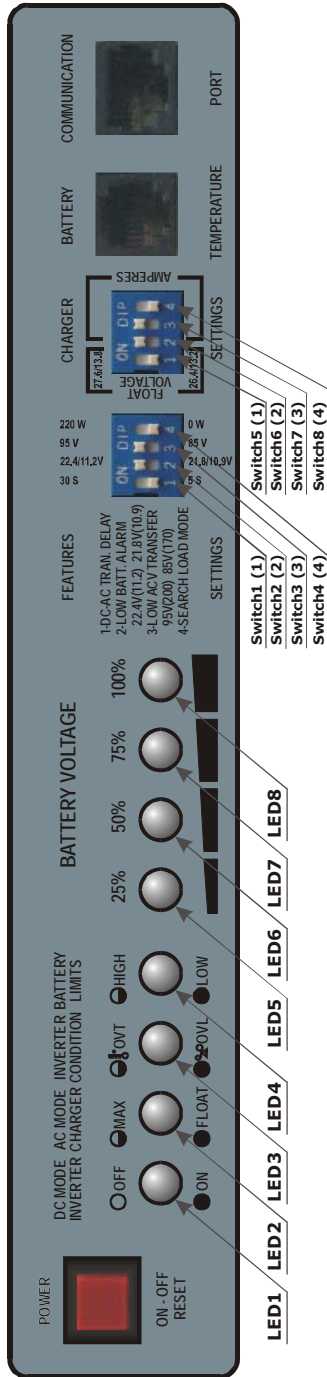

Fig.7a. Control & Indication Panel: S-2012A/E, S-3024A/E
2.1. The Control & LED Indication Panel on the top cover of the unit is shown in Fig.7a & 7 b on page 28. The details of DIP Switch settings and LED indications are given in the succeeding paragraphs.